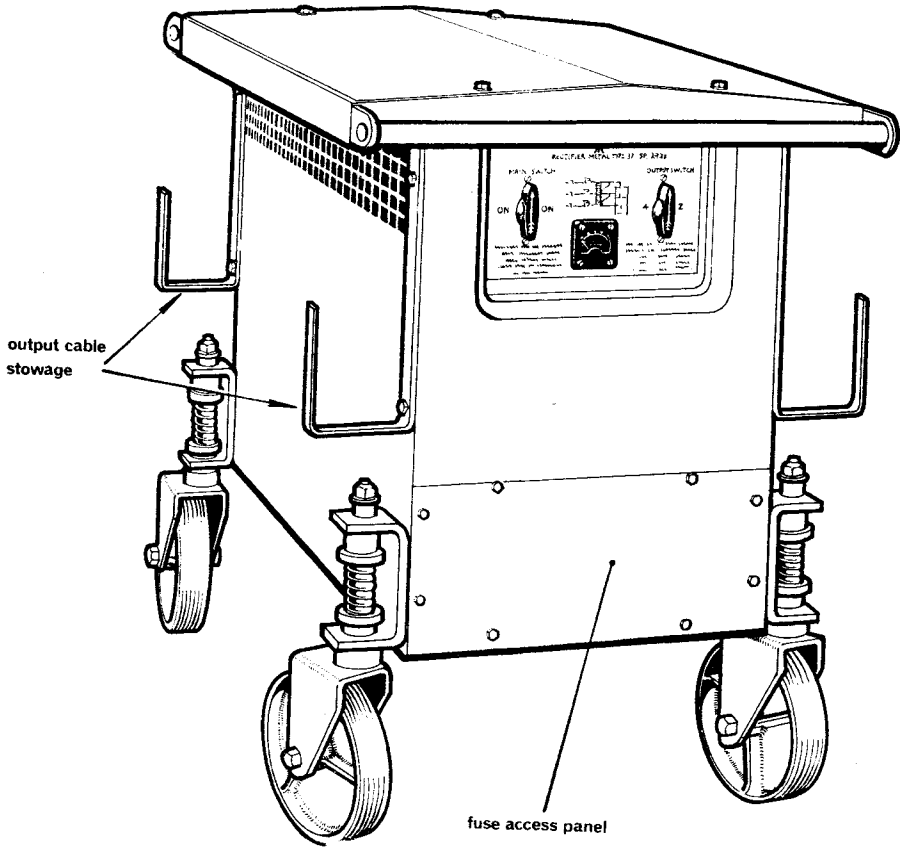

Fig. 3 Rectifier type 37
8. **Introduction.** The rectifier type 37 is a transformer/rectifier unit which converts the 415V 50Hz. three phase mains supply to 28V d.c. with a continuous output rating of 6kW. (i.e. 200 Amps.). It has an intermittent overload rating of 16kW. and can therefore be used for starting the engines of most light aircraft. The type 37A, with a different transformer, was introduced to replace the type 37 at wastage rates and has a higher intermittent overload rating (32kW.). A general view of the unit is shown in figure 3; the input and output leads have been omitted for clarity.